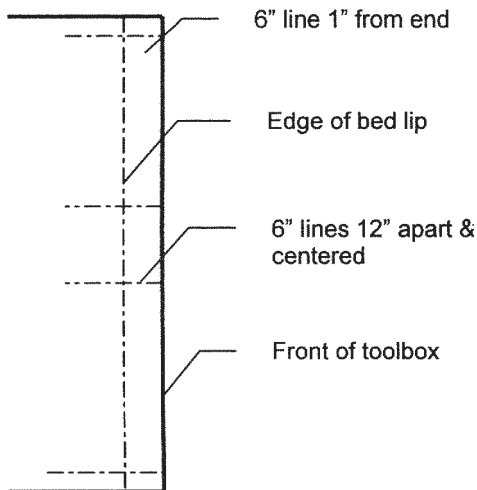

Fig. 1
2. Turn the toolbox over and at each end of the box mark a line about 6" long, about 1" inside of and parallel to the end of the box. Mark 2 more lines centered in the box 12" apart. See figure 1.